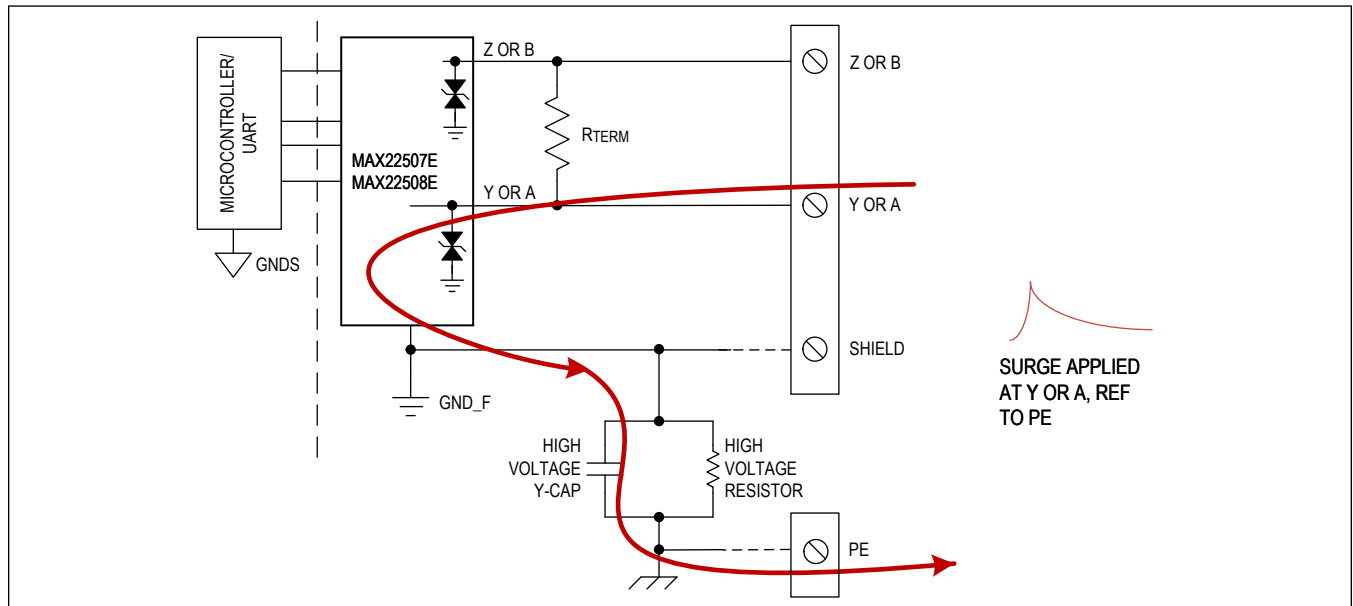

Figure 14. Surge Protection
Per the IEC 61000-4-5 standard, surge pulses must be referenced to protective earth (PE). Isolate PE from the field ground and connect a high voltage capacitor and a high voltage resistor between the field ground and PE. Figure 14 shows the current flow through the transceiver and PCB during a surge event. The MAX22507E/MAX22508E survived 8/20 $\mu$ s surge testing up to  $\pm$ 2kV/42 $\Omega$  with a 1000pF high-voltage capacitor without the need for external TVS protection.